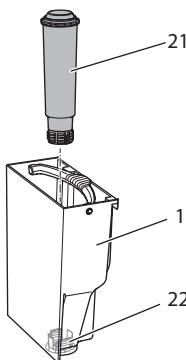

Fig. 15: Screwing/Unscrewing the water filter
- Remove the water filter (see Fig. 15 on page 44).
9. Insert a new filter in the water tank (see Fig. 15).
3. Remove the water filter (see Fig. 15).